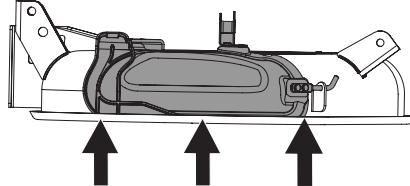

Figure 5
**IMPORTANT:** Be certain that the bottom of the mulch plug is installed down inside of the lip of the deck opening, as shown in Figure 5.